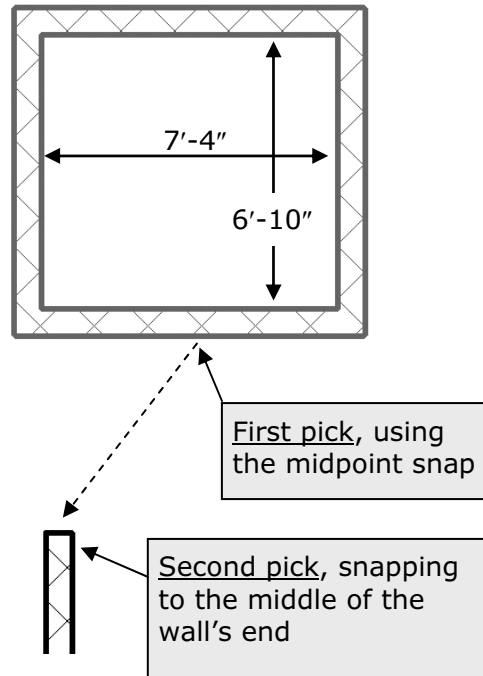

Figure 3-3.4 Move tool
13. Snap to the *Midpoint* of the shaft as your first point, and then snap to the *Middle Endpoint* of your temporary wall (Figure 3-3.4). You should zoom in to verify your snaps.